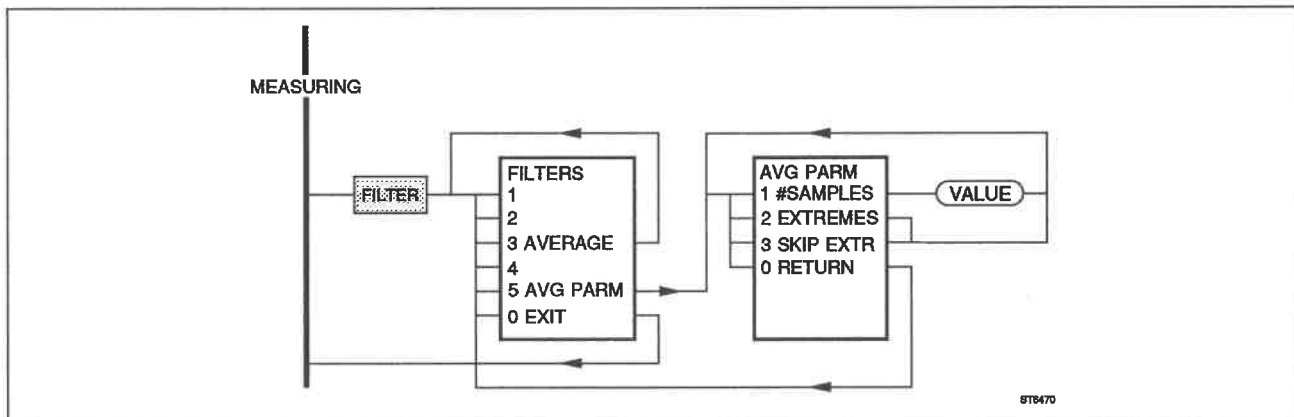

Fig. 4.34 Average Filter menu.
- press **FILTER** to invoke the filter menu (Fig. 4.34).